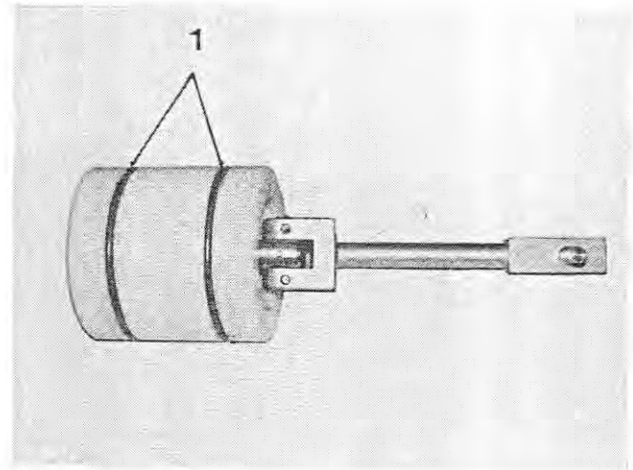

Fig. 203
9. Pull the piston (Figure 203) out of the rotary cylinder and clean it.
Check the sealing ring (Figure 203/1) and replace it, if necessary.